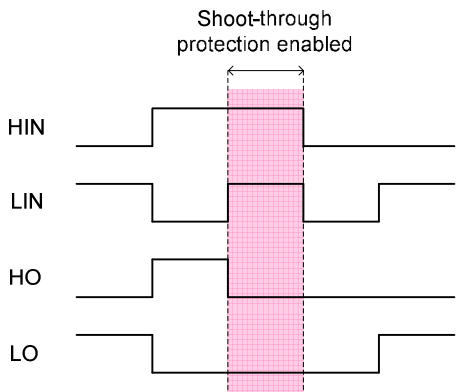

Figure 10: Illustration of shoot-through protection circuitry
The IRS2336xD family of high-voltage ICs is equipped with shoot-through protection circuitry (also known as cross-conduction prevention circuitry). Figure 10 shows how this protection circuitry prevents both the high- and low-side switches from conducting at the same time. Table 1 illustrates the input/output relationship of the devices in the form of a truth table. Note that the IRS2336(D) has inverting inputs (the output is out-of-phase with its respective input) while the IRS23364D has non-inverting inputs (the output is in-phase with its respective input).